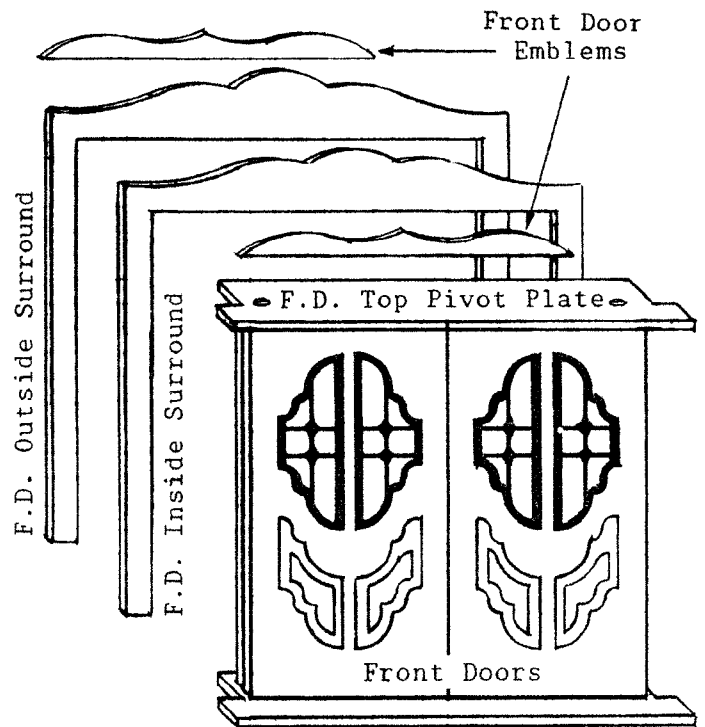

Figure 21
7. Dry assemble the door parts into the front door wall opening. To do this, tape the inside and outside front door surrounds centered on the front door wall opening. Fit the front door pivot pins into the top and bottom pivot plates. Slide doors and pivot plates into the doorway. If doors operate smoothly, then glue assembly together. Figure 21.